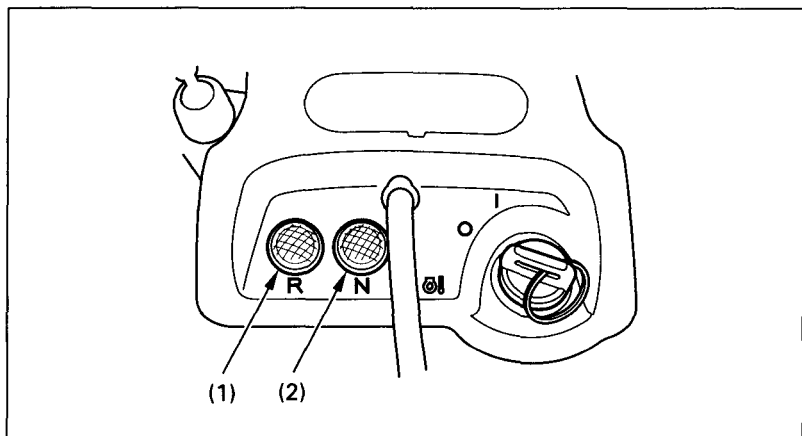

Fig. 2-12
The reverse indicator lamp (1) and the neutral indicator lamp (2) (Fig. 2-12) are next to the ignition switch.